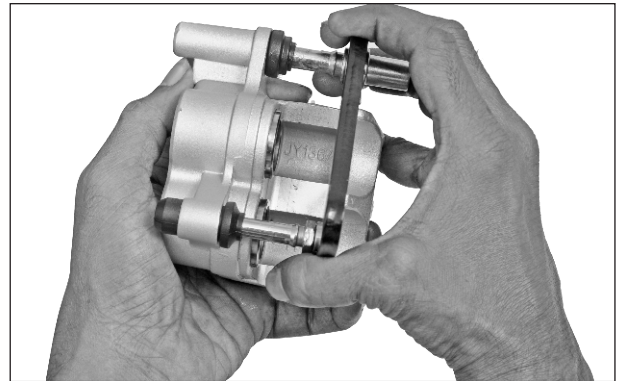

Fig. 6.26
- Dislocate the boot-B and bush boot pin from the pin grooves and slide out the bracket complete front. (Fig. 6.26)